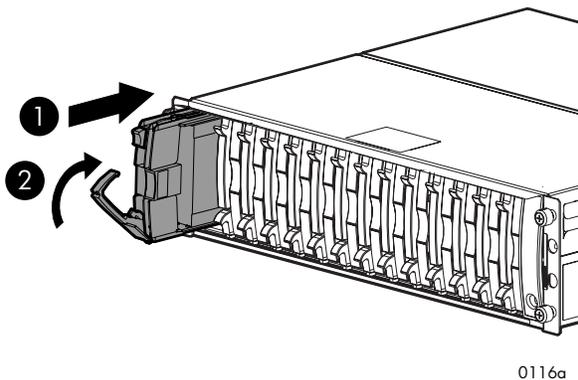

Figure 8 Installing the disk drive
2. Insert the drive into the enclosure as far as it will go (1, Figure 8).
3. Close the release lever until it engages the ejector button, and the disk drive seats in the backplane (2, Figure 8).